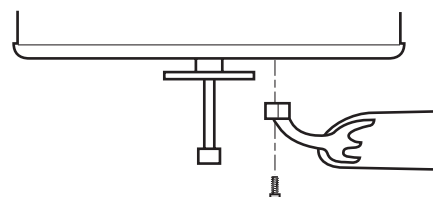

Figure 15 - Attaching the blade iron to the fan
2. For each blade, insert one blade mounting screw through the blade iron as shown in Figure 15, and attach lightly to the fan. Insert the second blade mounting screw, then securely tighten both mounting screws.